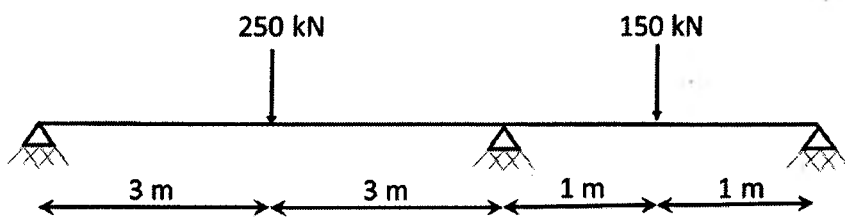

Figure 2
- Q.3 Determine the member forces and reactions developed for the beam as shown in figure 2. Take modulus of elasticity as 210 GPa and Moment of Inertia of cross-section as 0.5x10⁹ mm⁴. [20]